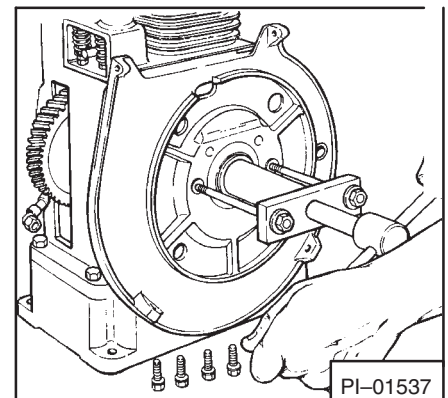

Fig. 39 Removing Bearing Plate
13. Remove crankshaft, oil seals and, if necessary antifriction bearings. It may be necessary to press crankshaft out of cylinder block. Bearing plate should be removed first if this is done (Fig. 39).